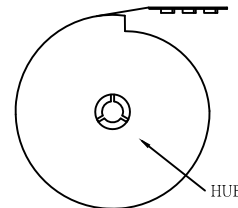

Fig.2
(2) At the beginning of winding belt,take one part of sticky belt with 60 mm length,15mm width. stick 20 mm on the material belt,stick 40 mm on the gap of the REEL mandrel , as shown in Fig.2.